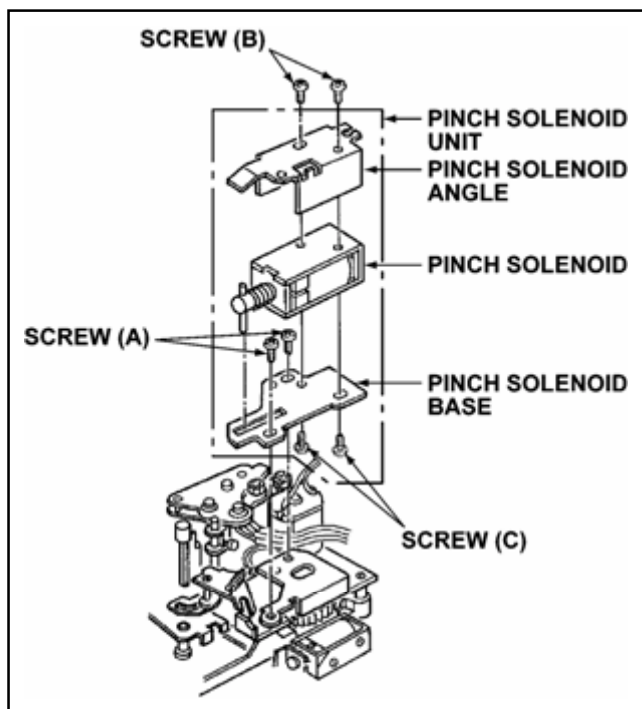

Figure 5-10-1
2. Unscrew the 2 screws (A) and remove the Pinch Solenoid Unit as shown in Figure 5-10-1.
3. Unscrew the 2 screws (B) and remove the Pinch Solenoid Angle as shown in Figure 5-10-1.
4. Unscrew the 2 screws (C) and remove the Pinch Solenoid from the Pinch Solenoid Base.